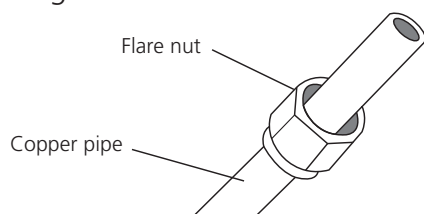

Fig. 6.5
3. Place flare nuts on both ends of pipe. Make sure they are facing in the right direction, because you can't put them on or change their direction after flaring. See Fig. 6.5